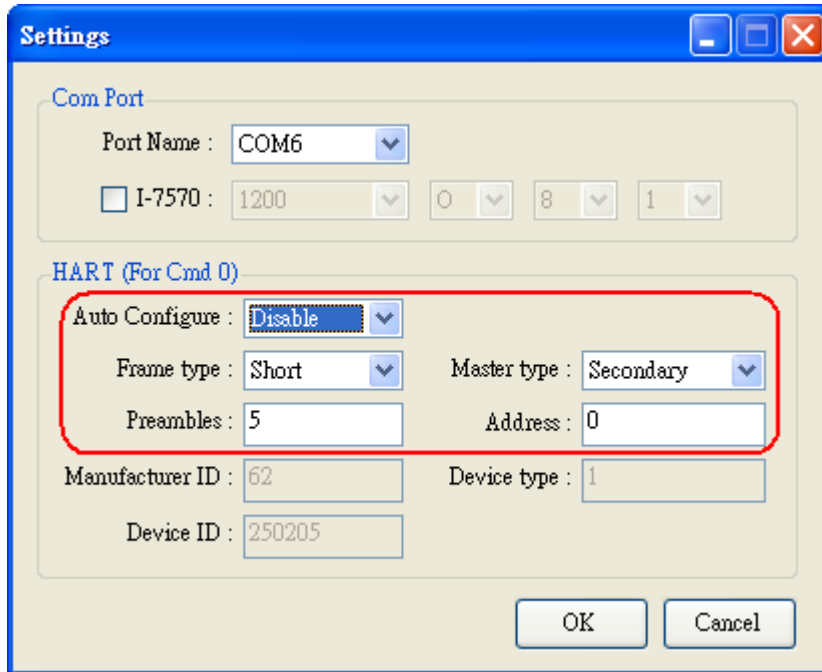

Figure 4-5: Short frame settings
- (1) If the option of “Frame type” field is “Short”, then “Master type”, “Preambles”, “Address” fields need to be configured like Figure 4-5.